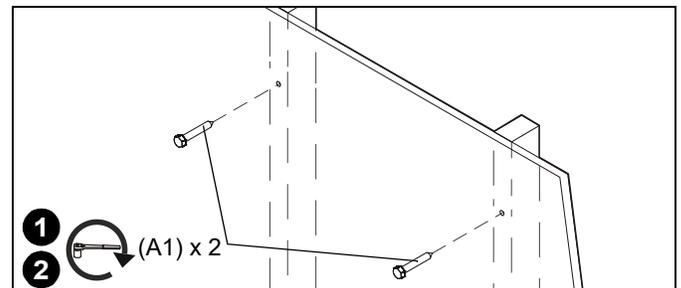

Figure 66
1. Use one 5/16 x 2-1/2" lag bolt (A1) through product and into pilot hole. (See Figure 66)